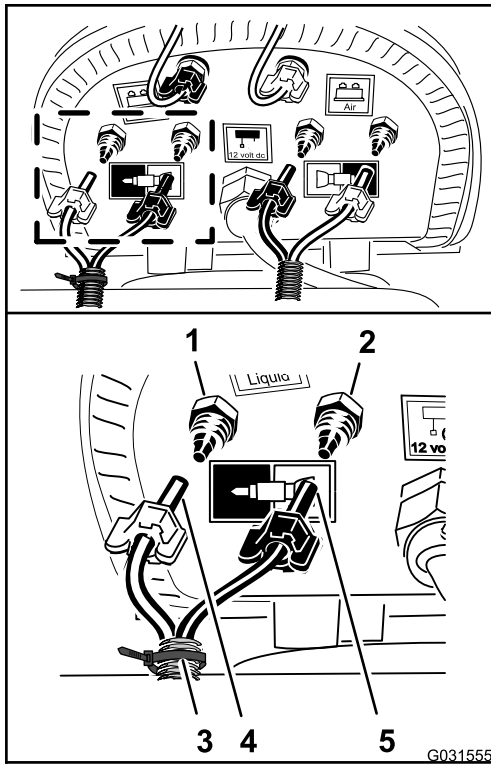

Figure 174
3. Connect the tubing with the cable tie that you prepared in step 9 of Removing the Liquid and Air Tubes from the Machine \(page 8\) by aligning the blue tube for the right boom section onto the compression fitting for the right boom section water circuit (Figure 174).
4. Assemble the compression nut for the tube onto the fitting and tighten the nut by hand (Figure 174).
5. Aligning the clear tube for the right boom section onto the compression fitting for the right boom section air circuit (Figure 174).
6. Assemble the compression nut for the tube onto the fitting and tighten the nut by hand (Figure 174).